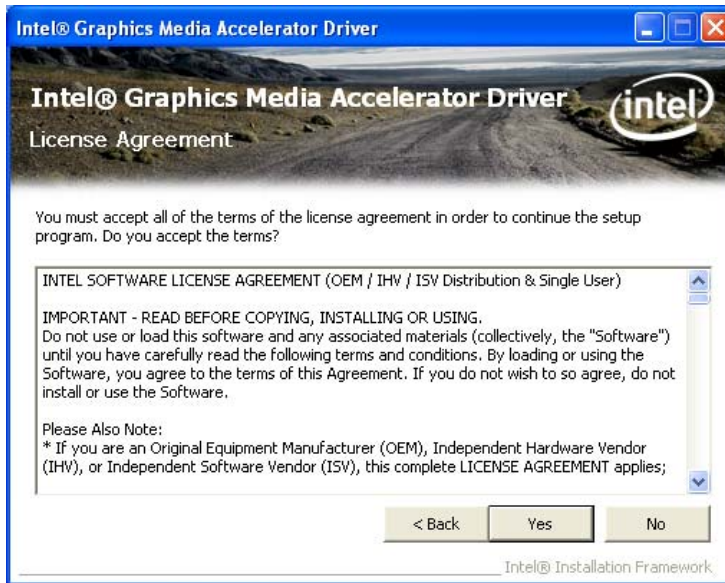

Figure 6-11: VGA Driver License Agreement
- Step 8:** The license agreement in Figure 6-11 appears.